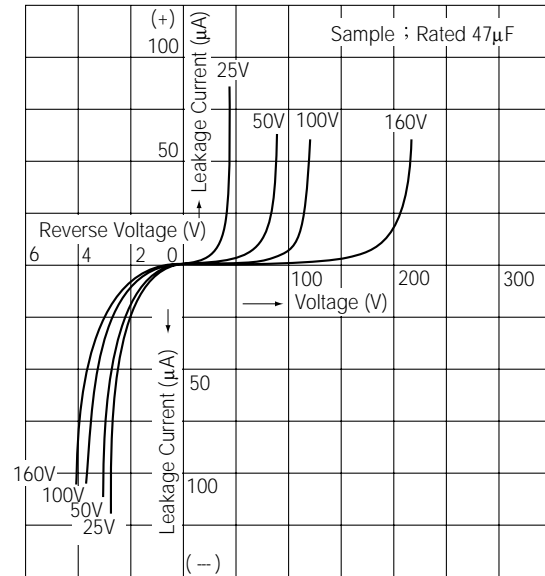

Fig. 2-2 V - I Characteristics (Voltage - Current Characteristics)
The relationship between the voltage and leakage current when voltage is applied to the aluminum electrolytic capacitor is shown in Fig. 2-2. From Fig. 2-2, the following can be said:
As (Fig. 2-2 V-I Characteristics) shows, the aluminum electrolytic capacitor does not have withstand voltage in the reverse direction. Therefore if the capacitor is used in an AC circuit, an electric current flow which is larger than that calculated from $I = \omega CE$. If the internal resistance of the aluminum electrolytic capacitor is labeled $R (\Omega)$, heat will generate due to the wattage loss $W = I^2R$ (W) according to the current. The degree of heat is large because the internal resistance of a capacitor is large; thus the pressure relief vent is activated when heat generates and causes the electrolyte to evaporate, causing the internal pressure to rise. Even bipolar capacitors (non-polar), cannot use it for continuous AC application in addition to above.